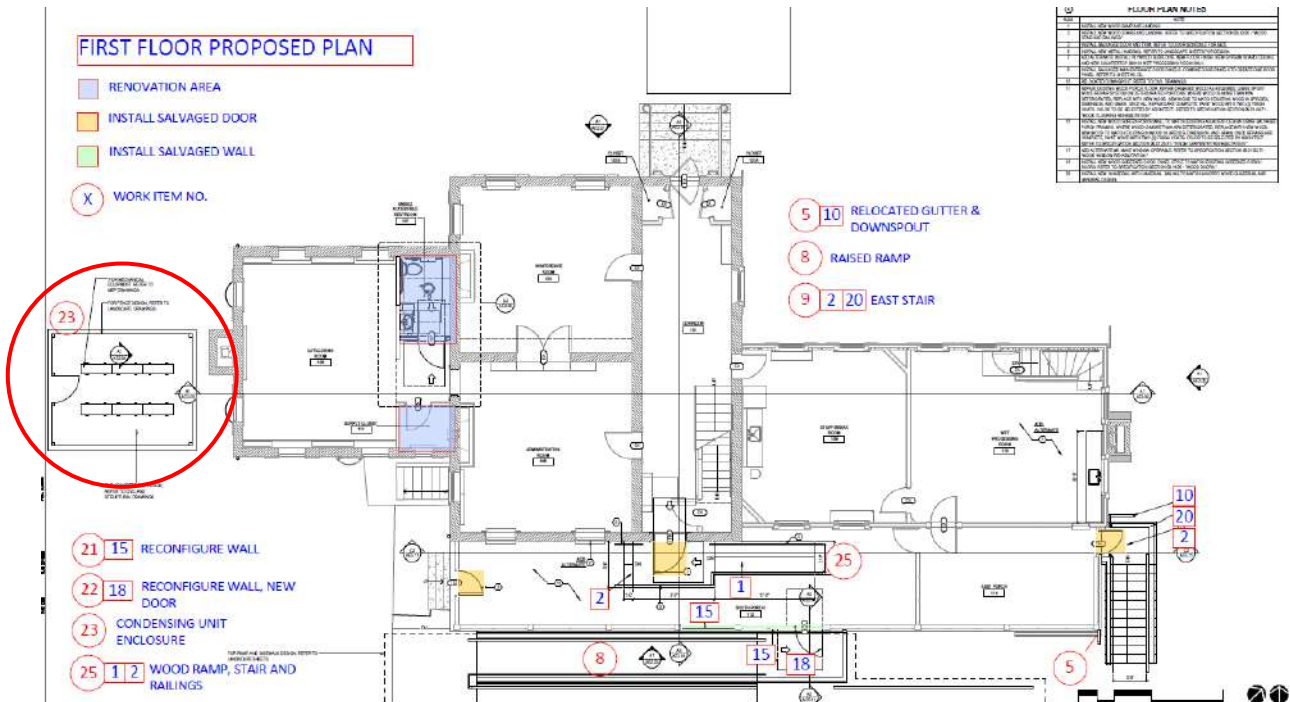
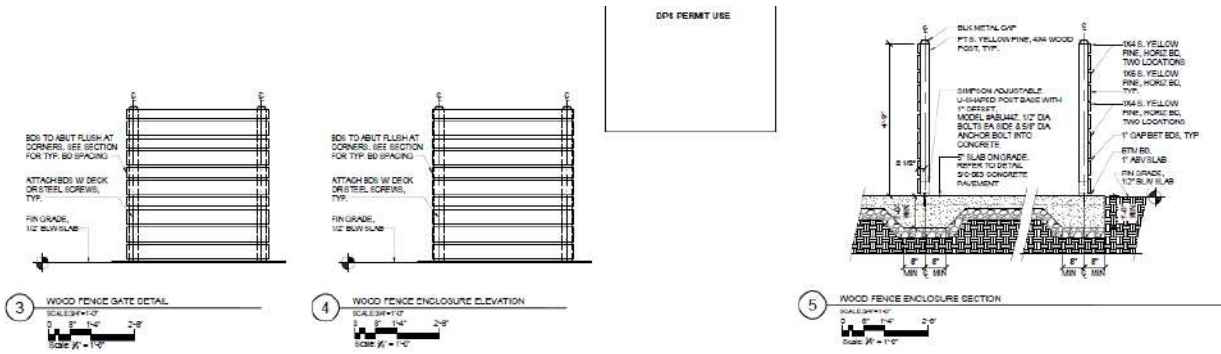

Figure 7: Proposed first floor plan showing the proposed equipment enclosure location (Work Item 23).
Figure 8: Elevation and section details of the proposed equipment enclosure, sheet L-010.
Staff supports the proposed alterations and finds that they largely addressed the concerns and comments expressed by the HPC during the preliminary consultation. As revised, with the exception of removal of vegetation around the front of the house, alterations proposed in the application are limited to the secondary side and rear elevations. Much of the focus during the preliminary consultation was on the proposed mechanical equipment and vents. Commissioners expressed concern about the previously-proposed condensing unit locations underneath the porch and those that would be visible upon entering the building. Subsequently, the applicants revised the proposal to locate all condensing units on a new concrete pad enclosed by a wood fence to the west of the western wing (*Figure 7, Figure 9, Figure 8*). Staff supports this proposal, finding that the location is the least visible to the public, as the majority of the pathways and parking area around the building are located on the east, north, and south sides of the building. Staff finds that the proposed enclosure and location will not substantially alter the exterior features of the historic site and that the painted wood material is compatible with the character of the site, in keeping with Chapter 24A-8(b)(1) and (2). Staff further finds that the new mechanical system will enhance the utilization of the historic site in a manner compatible with the historical, architectural and cultural value of the site, in keeping with Chapter 24A(8)(b)(3). Staff also finds that the proposed mechanical enclosure is in keeping with the Secretary of the Interior’s Rehabilitation guideline for Mechanical Systems, which recommends “installing a new mechanical system, if required, so that it results in the least alteration possible to the historic building and its character-defining features;” and, “placing air conditioning compressors in a location on a secondary elevation of the historic building that is not highly visible,”² and *Standards 2, 9, and 10*.